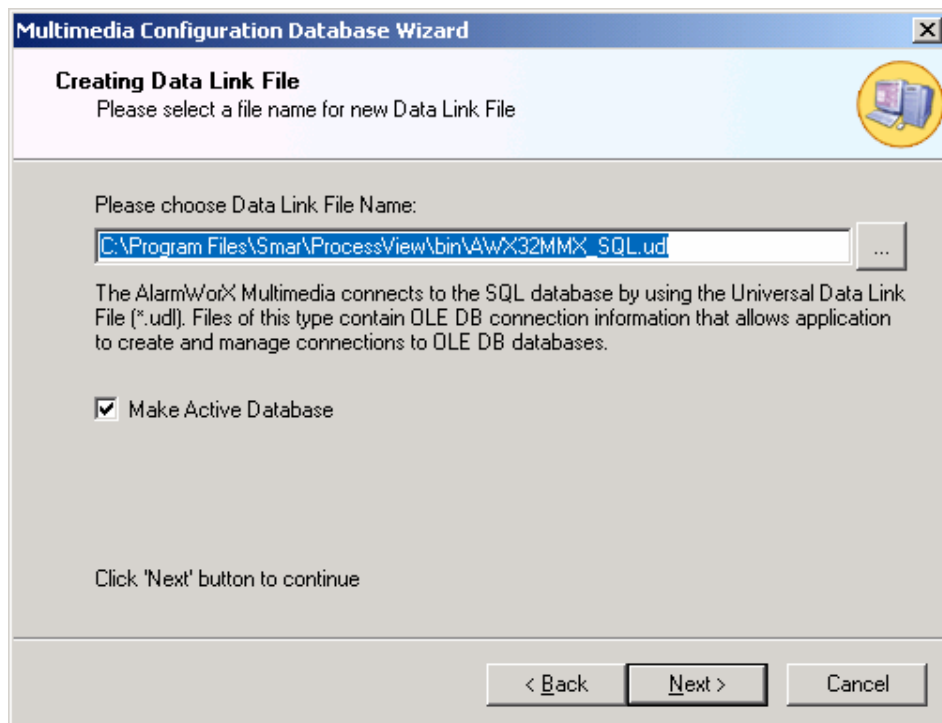

Figure 1.18. Creating a Universal Data Link File
6. The Configurator uses Universal Data Link (.udl) files to connect to the Microsoft SQL Server database. These .udl files contain OLE database connection information that allows the Configurator to create and manage connections to OLE databases. Enter a name and directory path for the new .udl file in the **Data Link File Name** field, as shown in **Figure 1.18**. You can browse for a directory by clicking the ... button to the right of this field. Click the **Next** button to continue.